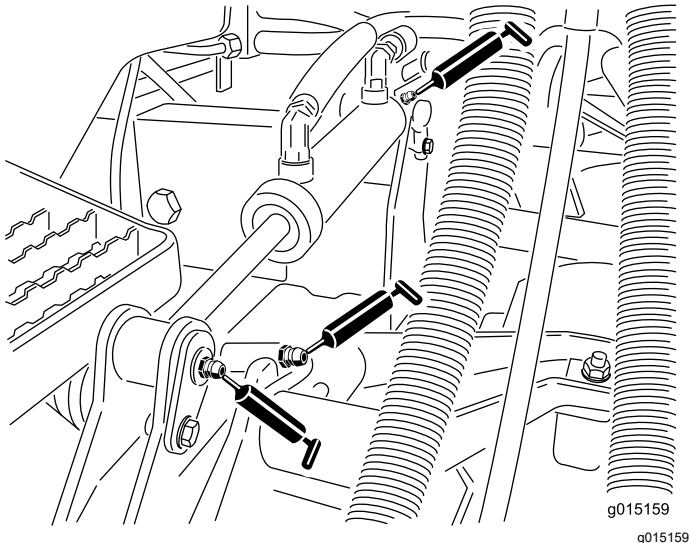

Figure 67
- Lift arm bushings (1 per cutting unit) (Figure 67)
- Lift cylinder bushings (2 per cutting unit) (Figure 67)